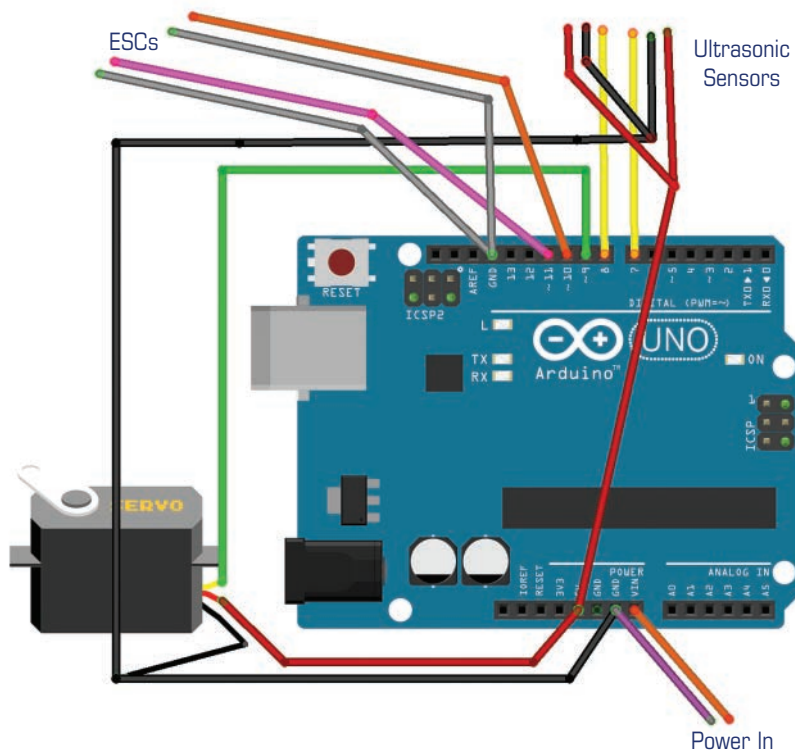

FIGURE 7.22 Swap in an Arduino in place of the receiver.
2. Yank out the receiver and replace it with the Arduino, wiring it up as you see in Figure 7.22: